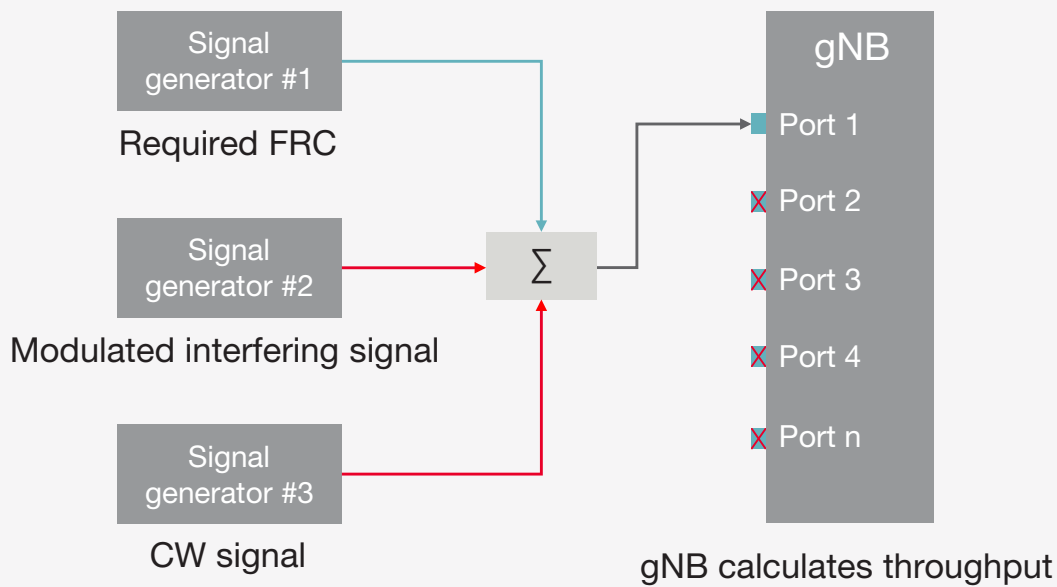

Figure 3. 5G NR gNB receiver characteristic test setup
Figure 3 shows the 5G NR base station receiver intermodulation test setup. The test signals include a wanted signal (required FRC) and interferers including a simple continuous wave (CW) signal and a modulated interfering signal. The test requires multiple signal generators to simulate the wanted signal and interferers. In addition, you need to combine the wanted signals and interferers with RF combiners and calibrate the test system to ensure that each signal at the input of the device under test (DUT) is at the correct power level. Table 2 provides an overview of required test instruments for 5G base station receiver tests.